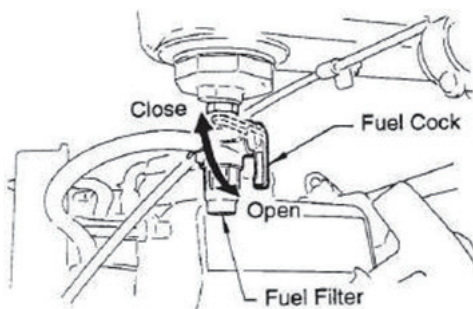

Fig 5
1. Open the fuel shut-off valve by moving the fuel cock lever to the **OPEN** position [Fig 5] then set the engine start/stop switch [Fig 5] to the **START** position.
2. Close the fuel shut-off valve by moving the fuel cock lever to the CLOSED position. See Figure 5.